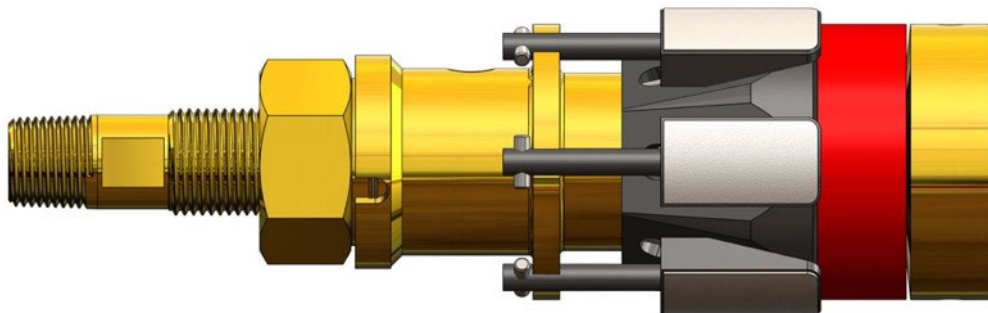

Figure 6: Ready to Install State (Compressed)
5.2 Tighten the **Compression Hex Nut(2)** so that the **ORB Spring Plate(3)** becomes flush to the **Wedge Cone(6)**, see Figure 6.
- In the Compressed state, shown in Figure 6, the GripSafe ST ORB plug will immediately grip the pipe upon insertion.